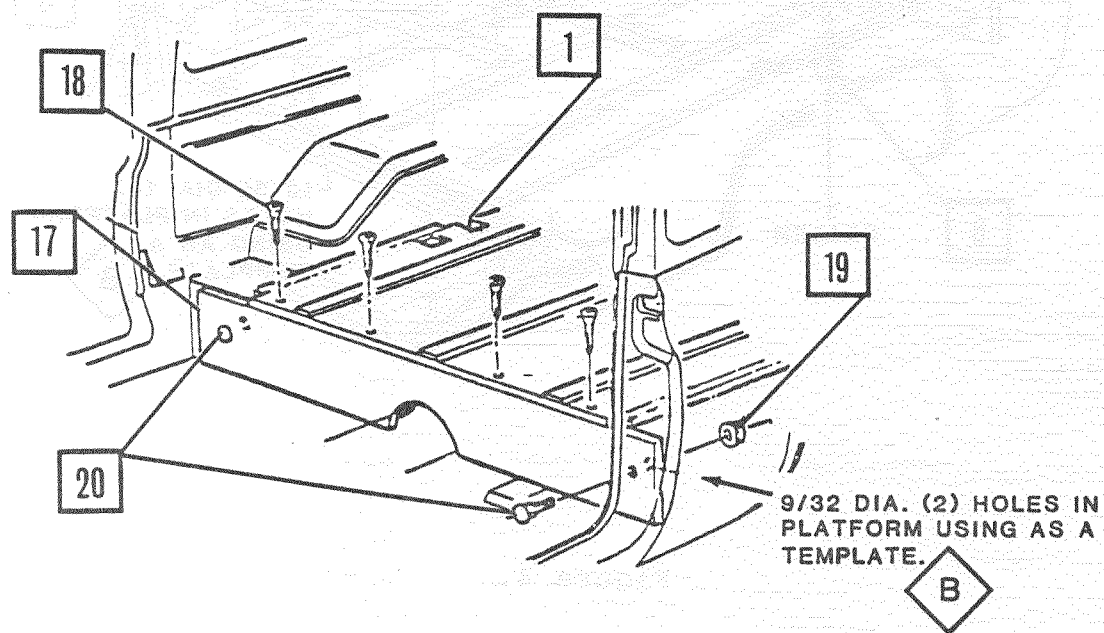

Figure 5.
17. Using front floor panel insulator as a template, drill two 9/32 inch holes through insulator and install bolt in drilled holes (Figure 5.).
18. Apply sealer around bolt, then install nut. Tighten to 40-70 lb.-in. (4.5-7.0 Nm) (Figure 5.).
19. Install screws in predrilled holes through floor insulators into front insulator (Figure 5.).